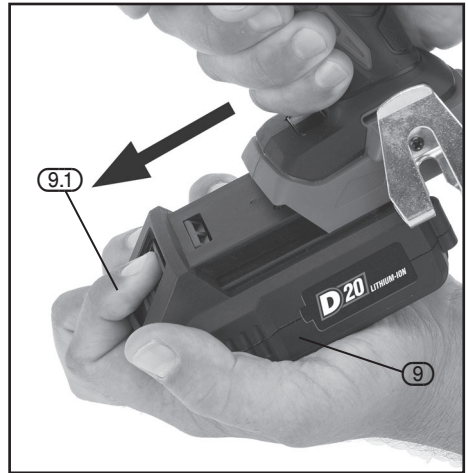

FIG.1
8.1 BATTERY PACK CHARGING – FIGS.1–2
- Press the battery release button (9.1) and gently slide the battery pack off (Fig.1).
- Plug the battery charger (11) unit into a 230V/AC 13amp three pin supply socket.